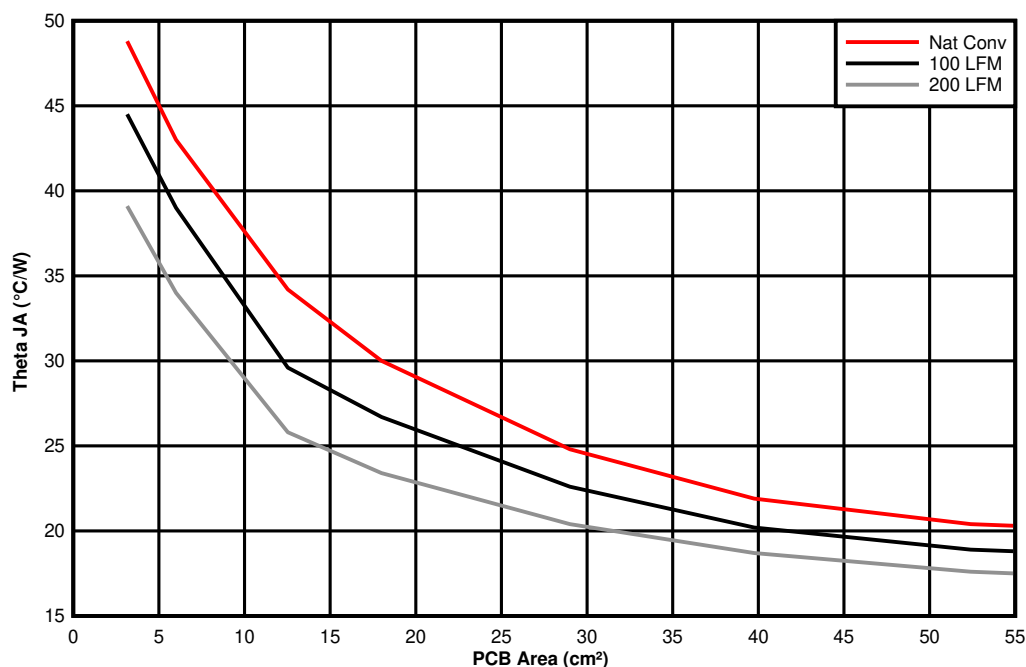

图 11-5. θ_{JA} vs PCB Area
The amount of PCB copper as well as airflow effects the thermal performance of the device. 图 11-5 shows the effects of copper area and airflow on the junction-to-ambient thermal resistance ($R_{\theta JA}$) of the TPSM5601R5. The junction-to-ambient thermal resistance versus PCB area is plotted for a 4-layer PCB.
3. Reference 图 11-5 to determine the minimum required PCB area for the application conditions.